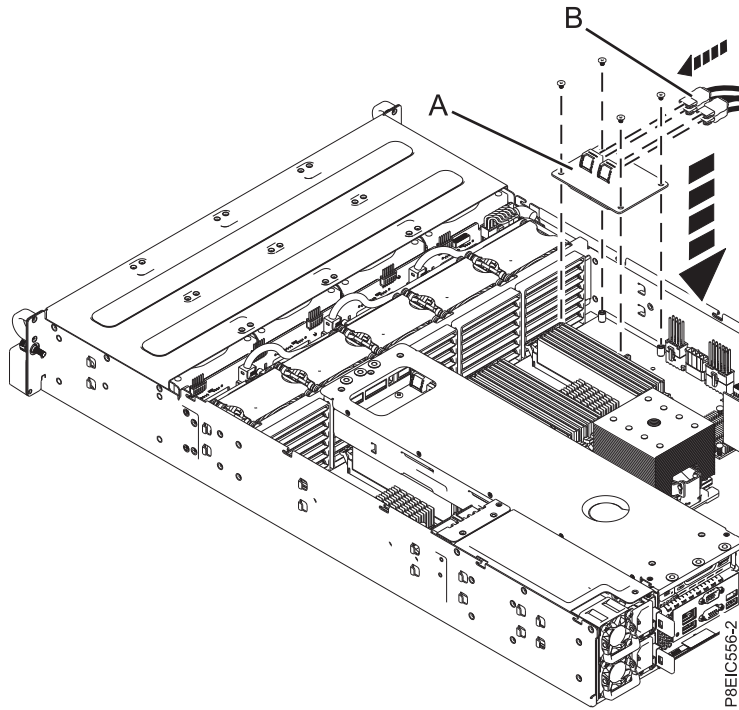

Figure 41. Replacing the storage mezzanine card
2. Install and tighten the four screws that secure the storage mezzanine card to the system backplane, as shown in Figure 41 on page 35.